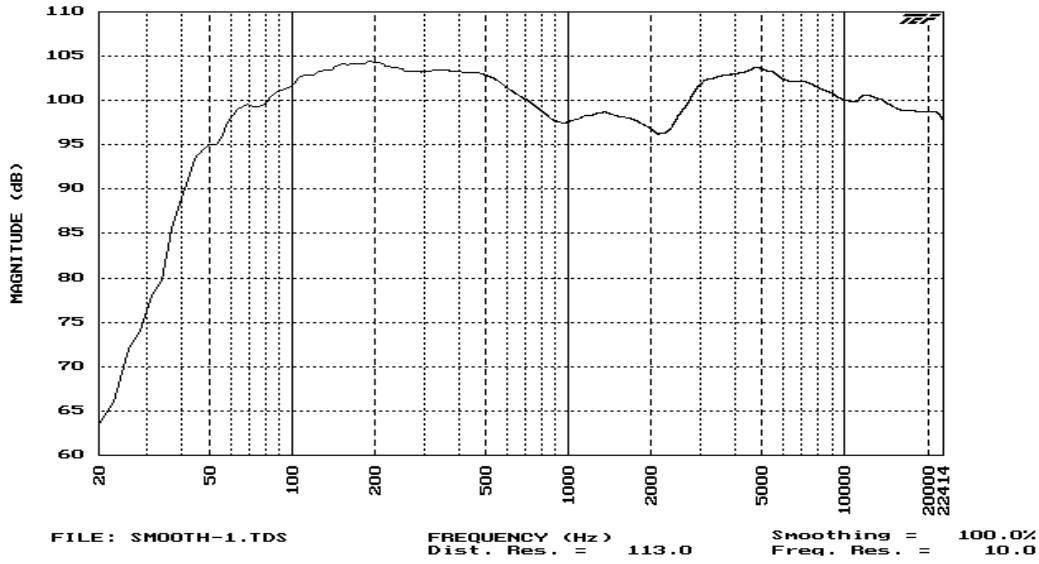

Figure 5. 100% (1 Octave) Smoothing
**Figure 5** shows 100%, one octave smoothing. You can see that all the detail is lost and the general shape of the curve has changed. If you compare the amount of detail in this curve with many manufacturers specification sheets you will see a lot of similarities.